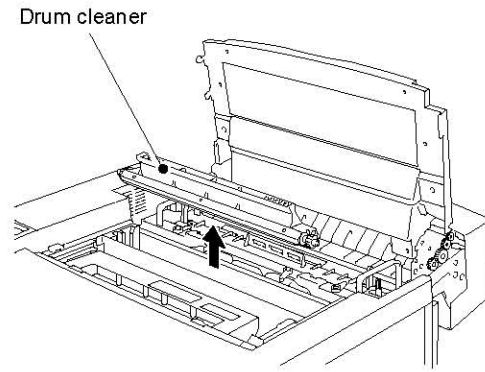

Fig. 6-26
- (4) Clean the area where the drum cleaner is mounted. (Fig.6-26)
- (5) Install a new drum cleaner into the printer.